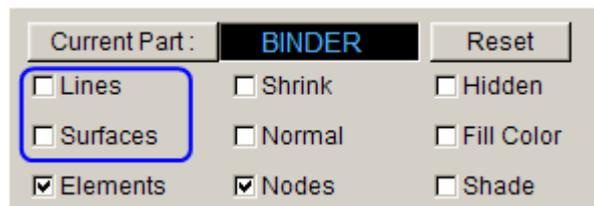

Figure 7.39 Display option
- Toggle off the checkbox of **Lines** and **Surfaces** in **Display Options** located at the lower right corner of the screen. See Figure 7.39.